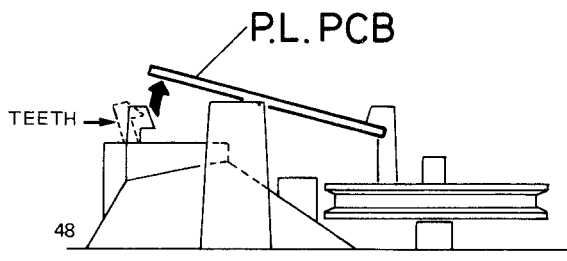

Fig. 10
2. Bend the teeth of the bracket mounting (48) to the outside and open the pilot lamp PCB. (cf. Fig. 10)